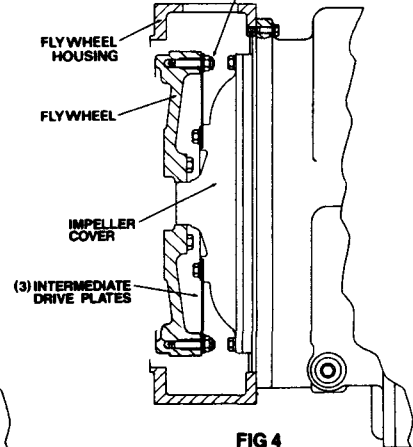

FIG 4
8. Locate transmission on flywheel housing aligning drive plate to flywheel and transmission to flywheel housing. **NOTE:** Fig. 4 installation, align drive plate holes with flywheel studs.
7. Install drive plate attaching screw and washer. Snug screw but **do not tighten**. **NOTE:** Fig. 4 installation, install drive plate attaching washers and nuts. Tighten each nut 28 to 30 ft. lbs. torque [38,0 - 40,6 N.m]. Some engine flywheel housings have a hole located on the flywheel housing circumference in line with the drive plate screw access hole. A screwdriver or pry bar used to hold the drive plate against the flywheel will facilitate installation of the drive plate screws. Rotate the engine flywheel and install the remaining seven (7) flywheel to drive plate attaching screws. Snug screws but do not tighten. After all eight (8) screws are installed torque each one 25 to 30 ft. lbs. torque [33,9 - 40,6 N.m]. This will require torquing each screw and rotating the engine flywheel until the full amount of eight (8) screws have been tightened.
\* Does not apply to units having 3 intermediate drive plates. See Fig. 4.